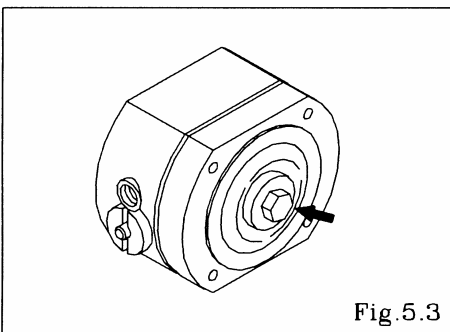

Fig.5.3
- Remove the center disk using the cap and disk remover. (special tool: Part No. 771132). [Fig.5.3]